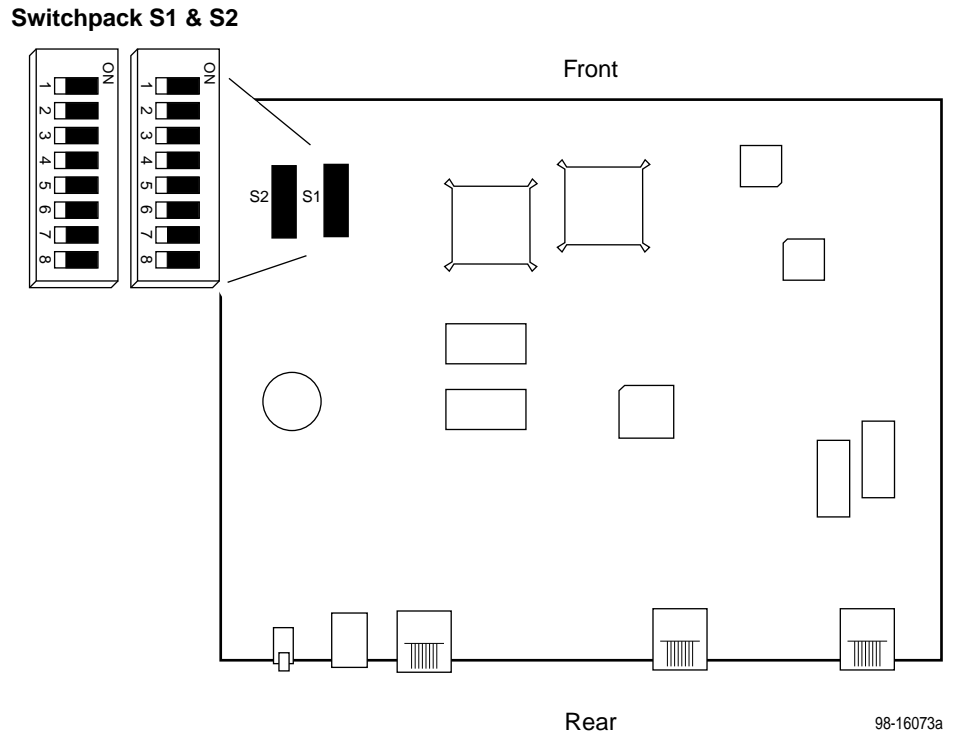

Figure 3-1. Hotwire 7984 Standalone Termination Unit Switchpack Locations
Use internal Switchpacks S1 and S2 to manually configure the unit. Use Figure 3-1 to locate Switchpacks S1 and S2.
2. Locate Switchpack S1 using Figure 3-1.
4. After you enable the switchpacks, you must set the switches to your desired configuration. Refer to Figure 3-1 and Table 3-1.
Use Figure 3-1 to locate Switchpacks S1 and S2.